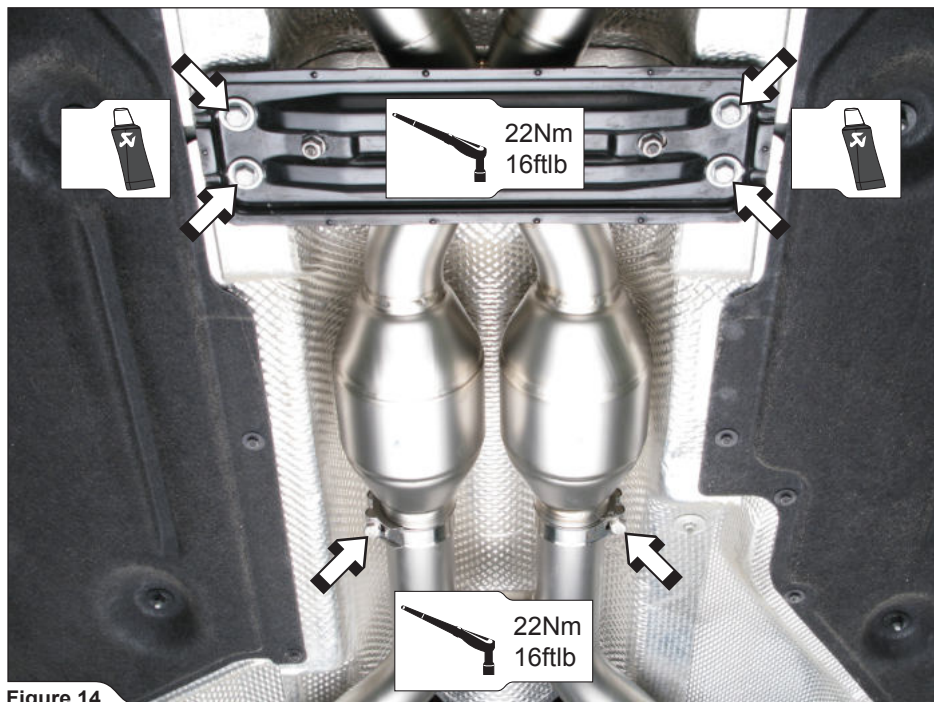

Figure 14
4. **For Evolution:** slide the middle pipes onto the headers, tighten the stock bracket and clamps to a specified torque (**Figure 14**).